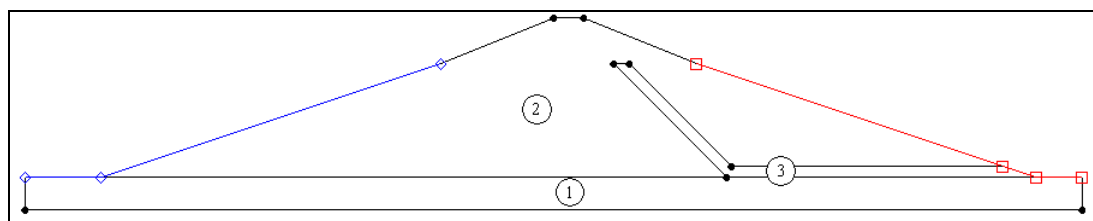

Figure 6. Polygons and their material IDs.
2. Double-click one of the three arcs highlighted in Figure 6 below.
2. Double-click on the embankment which is zone 2 in Figure 6 below.